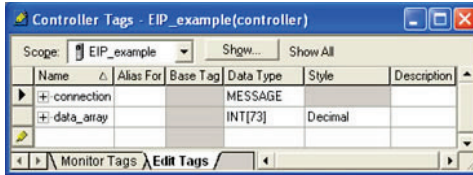

Figure 67: Create New Tags
- b) The "Controller Tags" window appears. Refer to Figure 67.